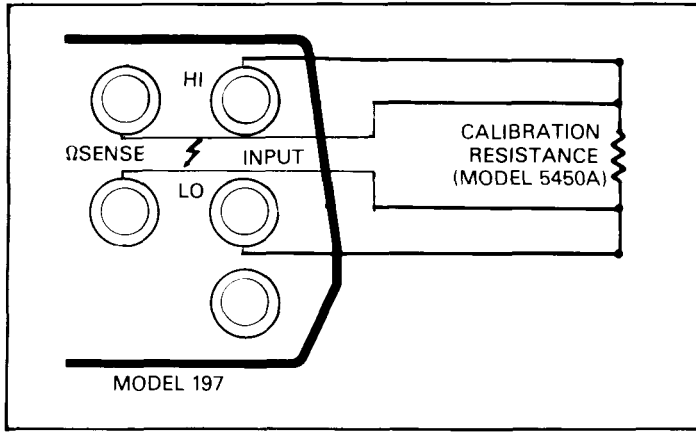

Figure 3-3. Connections for 200, 2k and 20k Range Verification (4-terminal)
3. Connect a 190Ω calibration resistor as shown in Figure 3-3. Note that the 4-terminal configuration is used for this measurement.
5. Connect a 1.9kΩ calibration resistor to the instrument as shown in Figure 3-3. Switch the instrument to the 2kΩ range. Verify that the displayed reading is within the limits specified in Table 3-4.
6. Connect a 19kΩ calibration resistor to the instrument as shown in Figure 3-3. Switch the instrument to the 20kΩ range. Verify that the displayed reading is within the limits specified in Table 3-4.